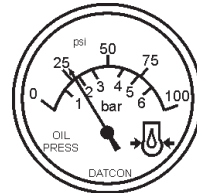

Figure 47. Oil Pressure Gauge
14. The engine oil pressure gauge (Figure 47) will indicate the oil pressure (kg/ cm²) of the engine. Under normal operating conditions the oil pressure should be approximately 25 psi.